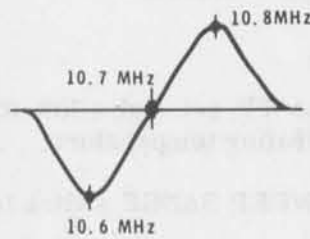

Figure 18
- ( ) Use the same markers as stated above and align the discriminator according to the manufacturer's instructions. For this adjustment, the Generator output should be high enough so limiting will occur. Figure 18 shows the correct response curve for the discriminator.